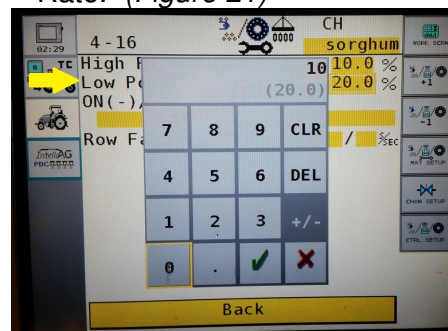

Figure 21
Step 16. Select **Low Population Alarm**. This works the same as High Population Alarm except it is the % below Target Rate. (Figure 21)